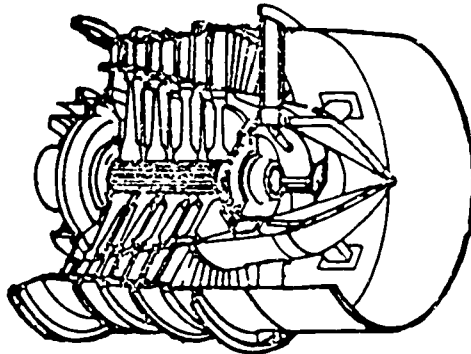

Figure 9. Turbine Bearing Support and Tailpipe.
4. Exhaust Section (Figure 9)
(1) Exhaust struts: Aids in keeping the gases in a _____ airflow pattern.
(2) Exhaust cone (Figure 9): Aids in controlling the _____.
(3) Exhaust nozzle area (Figure 9): The area formed by the exhaust cone and _____. This area creates a nozzle through which the mass is accelerated to produce _____.